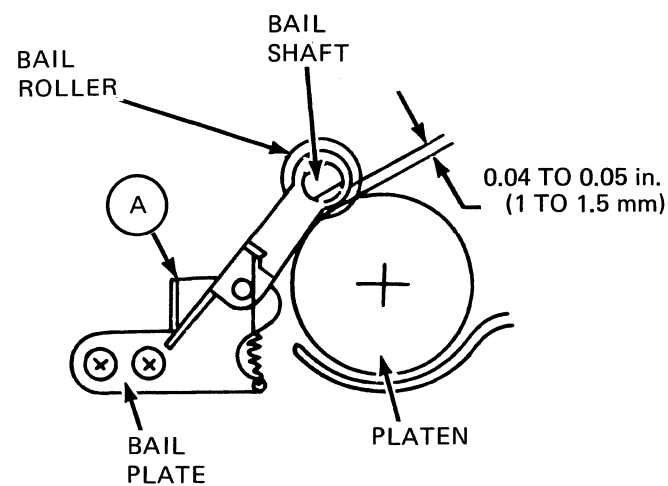

Figure 5-14 Pressure Bail Roller Adjustment
- a. Slide the bail rollers (Figure 5-14) until they are outside the rubber part of the platen.